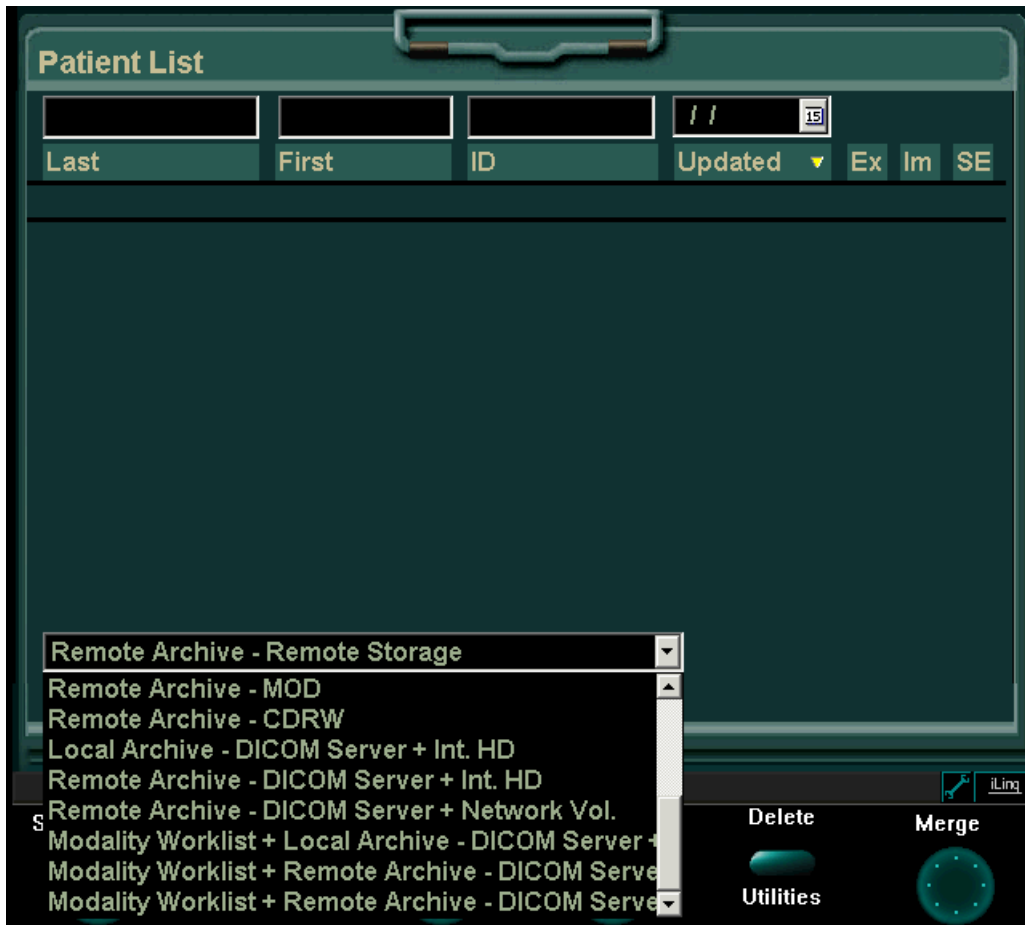

Figure 3-44 Patient List Window
- 1) Press the **Archive** button on the control console. The *Patient List* window is displayed, as shown in Figure 3-44 on page 3-62.